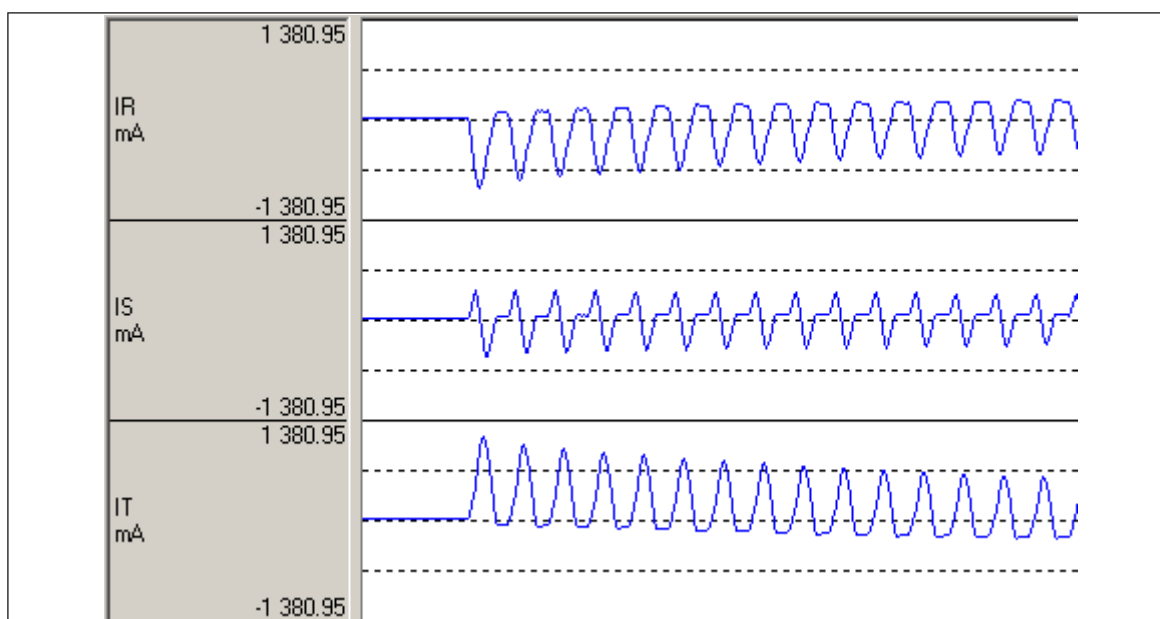

Figure 1-1 Example: A typical inrush current
- The physical connection of the CT-s (See example in *Figure 1-1*)
- The physical connection of the VT-s (See example in *Figure 1-1*)
Figure 1-1 illustrates the following setting:
When an inductive element with an iron core (transformer, reactor, etc.) is energized, high current peak values can be detected. This is caused by the transient asymmetric saturation of the iron core as a nonlinear element in the power network. The sizing of the iron core is usually sufficient to keep the steady state magnetic flux values below the saturation point of the iron core, so the inrush transient slowly dies out. These current peaks depend also on random factors such as the phase angle at energizing. Depending on the shape of the magnetization curve of the iron core, the detected peaks can be several times above the rated current peaks. Additionally, in medium or high voltage networks, where losses and damping are low, the indicated high current values may be sustained at length. Figure 1-1 shows a typical example for the inrush current shapes of a three-phase transformer.
As Figure 1-1 shows, the typical inrush current in one or two phases is distorted and asymmetrical to the time axis: for example, in IT of the Figure above the positive peaks are high while no peaks can be detected in the negative domain.